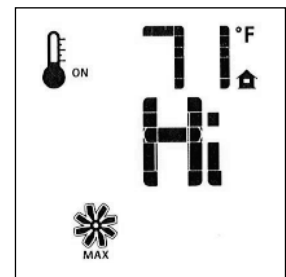

Figure 69. Fan Speed.
- Use the Up/Down Arrow Keys to turn ON, OFF, or adjust the fan speed. Fig. 69. A single “beep” will confirm reception of the command. After a 5 minute interval, the fan will power up to its highest speed and then modulate down to the established fan speed setting. The fan will continue to operate for 12 minutes after the burner is turned off. Manual speed control is not available when the SMART Thermostat is ON.